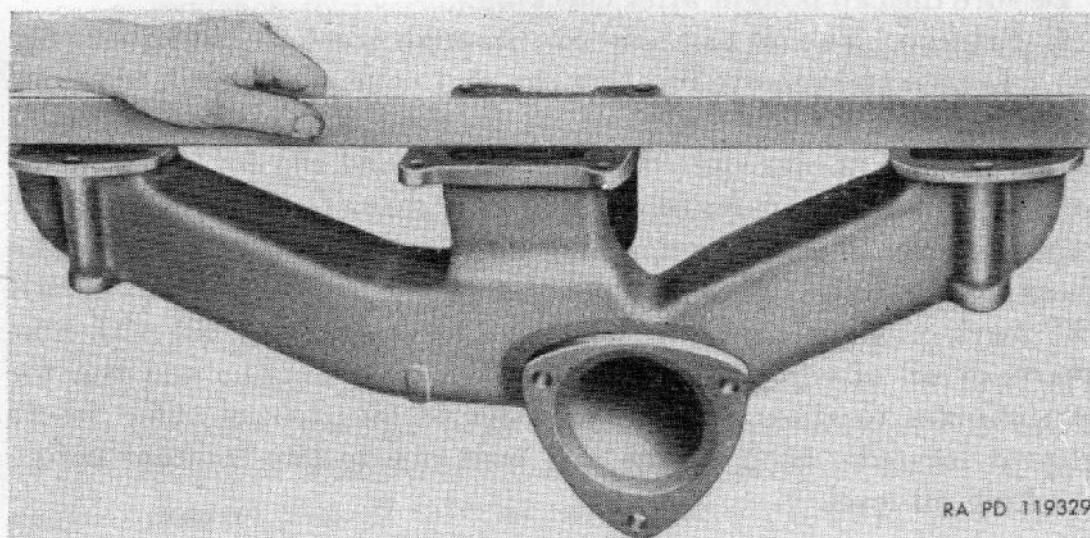

Figure 44. Checking exhaust-manifold flanges.
b. INSPECTION. Inspect exhaust manifold for cracks and remove any carbon deposits. Check alinement of mounting flanges on a surface plate, or with straightedge (fig. 44). Discard manifold if misalinement of flanges exceeds one-thirty-second inch.